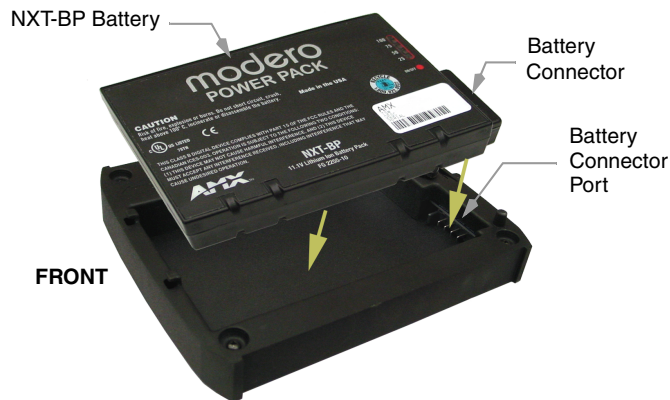

FIG. 4 Battery installation procedure
2. Align the battery connector with its corresponding battery connector port (located in the battery compartment shown in FIG. 4).